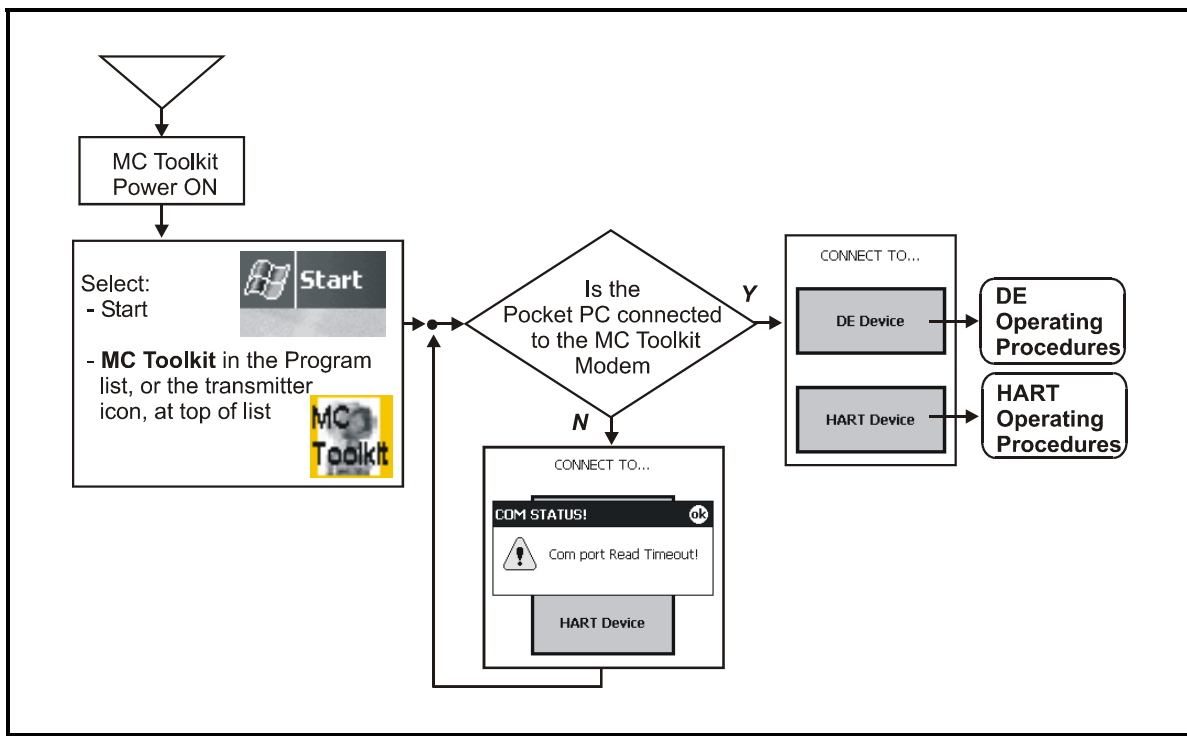

Figure 8 Start-up - MC Toolkit Application
The sequence for starting the Pocket PC and the MC Toolkit operation is illustrated in Figure 8 Start-up - MC Toolkit Application.
- Start the MC Toolkit application; the **CONNECT TO ...** display will appear. (Refer to Figure 8 Start-up - MC Toolkit Application.)